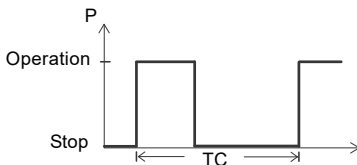

Fig. 4 S3 operation
S3 operation is a series of 10-minute duty cycles (TC). Each cycle has a 4-minute period of constant load followed by a 6-minute period of rest. Thermal equilibrium is not reached during the cycle. See fig. 4.